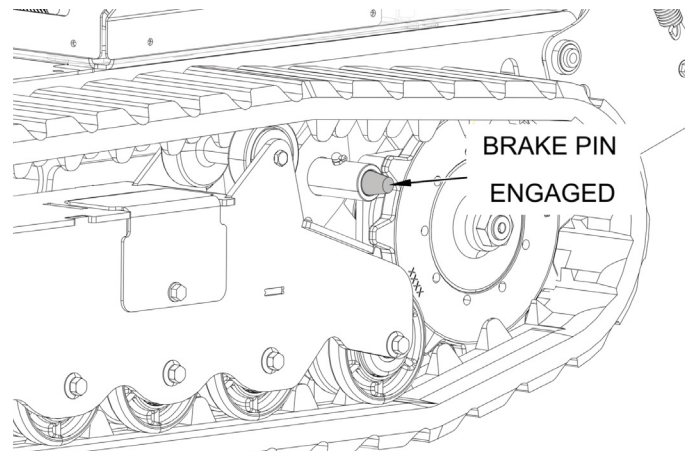

Figure 5-2. Parking Brake Engaged
5. Start the machine. Move slightly forward until the tracks are stopped by the brake shaft pins. Move slightly in reverse until the tracks are stopped by the brake shaft pins. Visually confirm. See Figure 5-2.